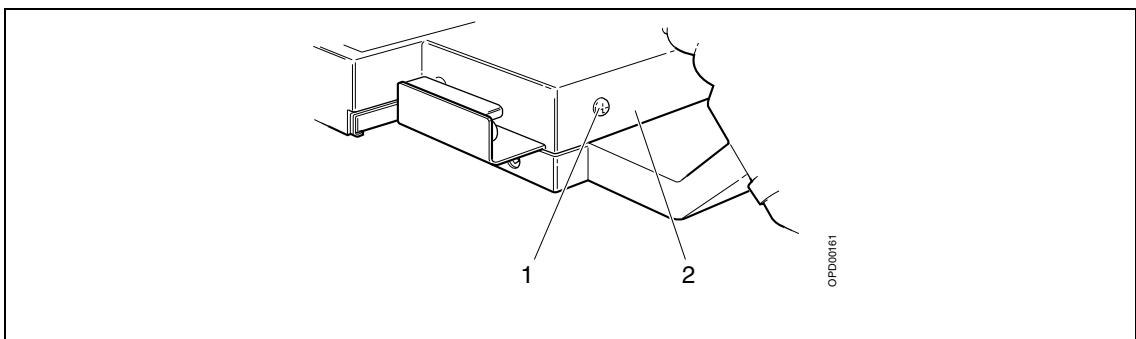

Fig. 3 Object table arm before installation
2. Remove the screws (1/Fig. 3) and remove the cover (2/Fig. 3) of the object table arm.